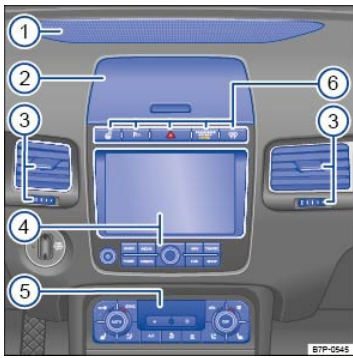

Fig. 6 Overview of upper center console.
**Key to ⇒ Fig. 6 :**
- ① Air vent for indirect ventilation ⇒ *Heating and air conditioning*
- ② Storage compartment ⇒ *Storage areas*
- ③ Air vents ⇒ *Heating and air conditioning*
- ④ Radio or Radio & Navigation system (factory installed) ⇒ *Introduction to the Infotainment System*, ⇒ *Booklet Radio or Navigation System*,
- ⑤ Controls for:
- ⑥ Located here: